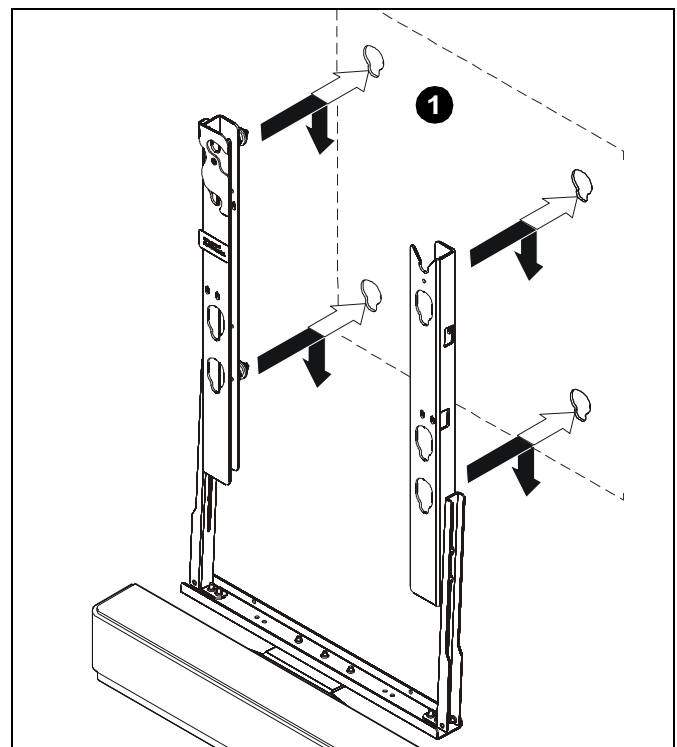

Figure 6
1. Install accessory to mount following the installation instructions provided with the mount. (See Figure 6)